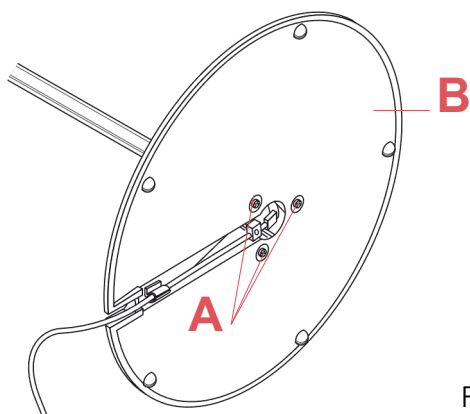

Fig.6
Fasten the two screws (C) of the cable clamp and then assemble the lamp counterweight by fastening the three locking screws. (Fig 6 page 38)